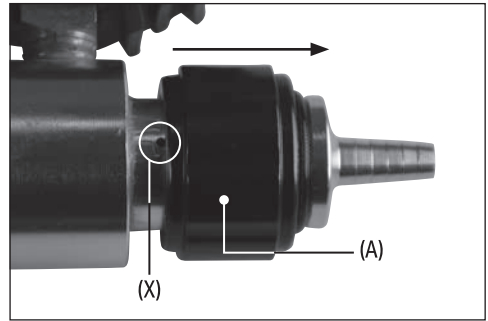

Fig. 2
Move the sliding sleeve (A) away from the main body until it touches the 'O' ring behind the nozzle (Fig.2). The hole indicated 'X' must be uncovered.